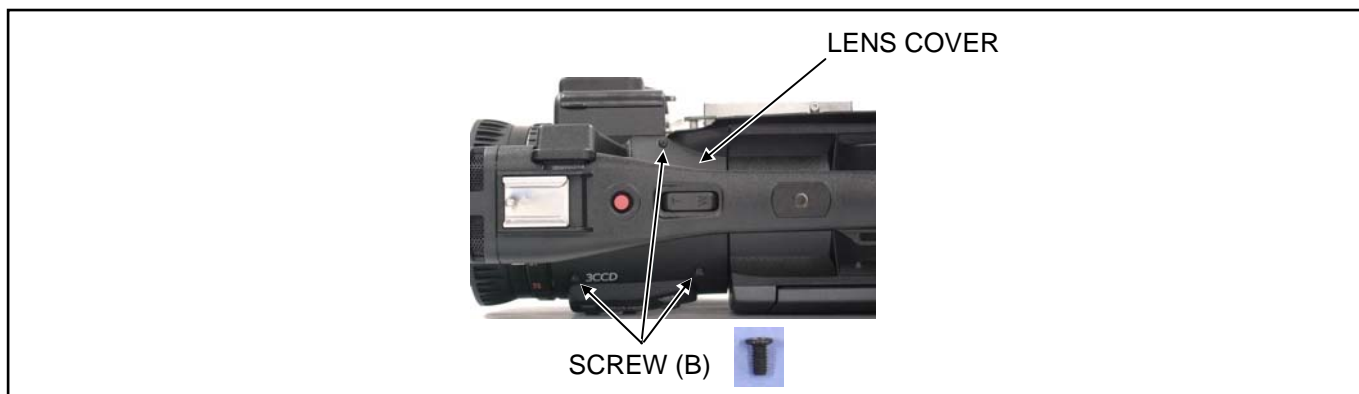

Figure 7-2
5. Unscrew the 3 screws (B) and remove the Lens Cover as shown in figure 7-2.